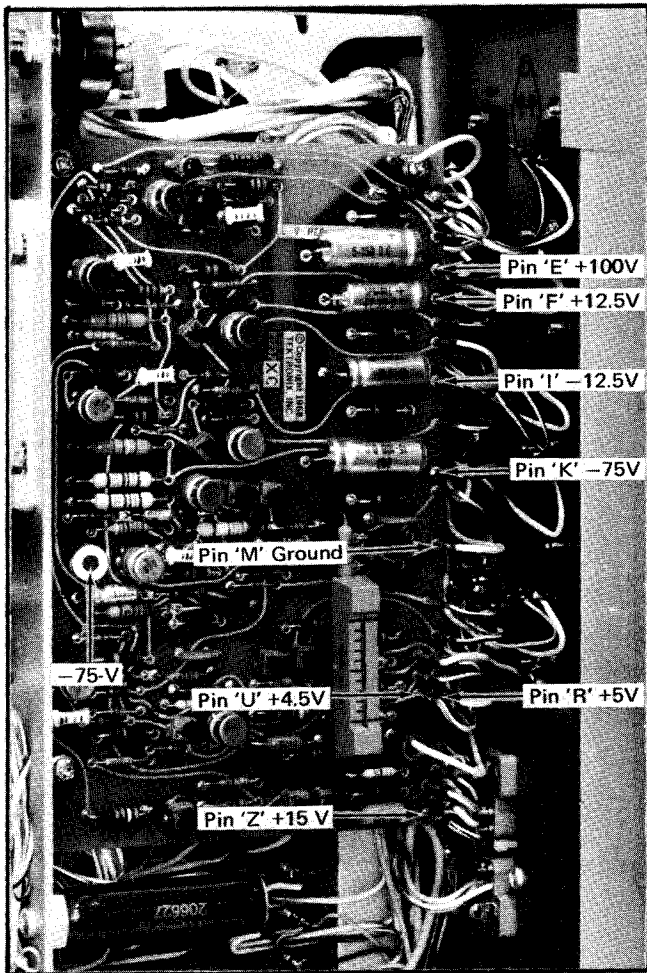

Fig. 5-2. L. V. REGULATOR circuit board: Location of test points and adjustments in steps 1 through 3.
- Connect the negative lead of the DC voltmeter to ground, pin M on the L. V. REGULATOR board, (See Fig. 5-2). Connect the positive lead to the -75 volt supply, pin K. Be sure the polarity of the DC voltmeter is set for measuring a negative voltage.
- ADJUST—R721, -75-V adjustment (see Fig. 5-2) if the voltage is not correct.